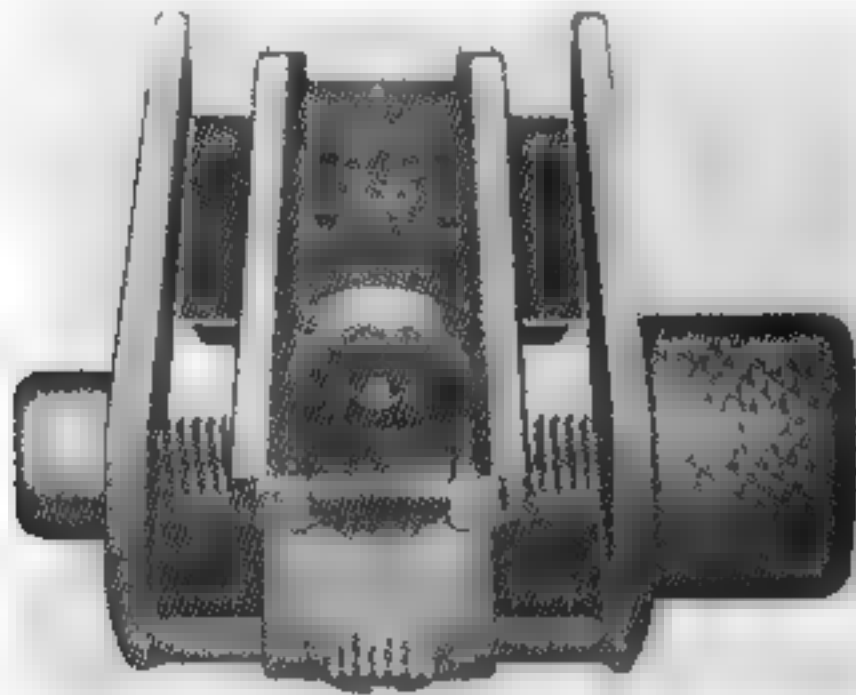

Figure 43a. The rear sight.
a. The rear sight of your carbine is adjustable (Fig. 43a), enabling you to engage targets accurately up to the maximum effective range. It has an elevation slide and a windage knob. The rear sight ramp has the numbers 1, 2, 2.5, and 3 corresponding to 100, 200, 250, and 300 yards of range. There is a corresponding indentation on the ramp for each of these ranges. The sight setting for 100 yards is also used for firing at 150 yards. The base of the rear sight has graduations for windage.